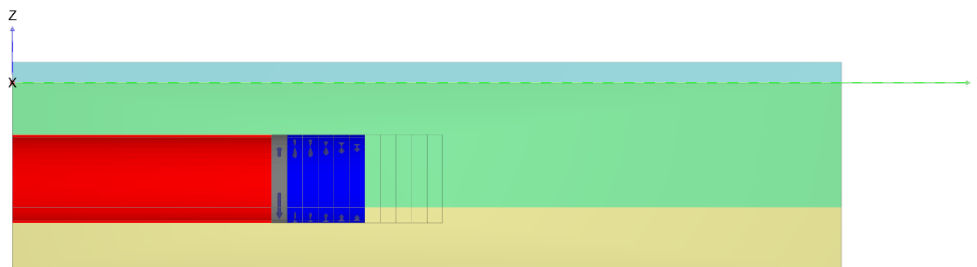

Figure 79: Selection of soil volumes (0 m - 25 m)
4. In the drawing area select the soil volumes corresponding to the lining in the first 25 m (Figure 79 (on page 106))